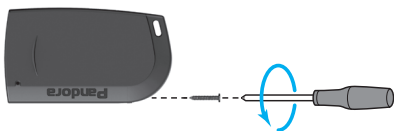

fig. 1
- Unscrew the screw with a Philips PH00 screwdriver (fig.1);